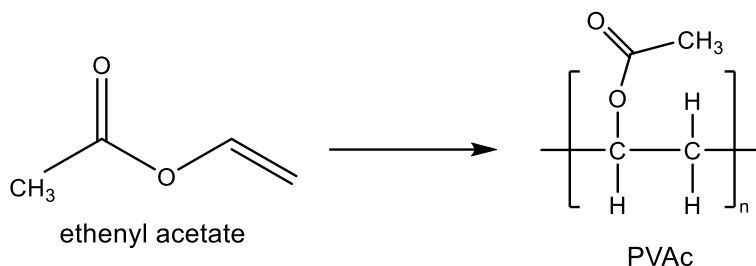

Fig. 4.1
- 4 (a) Polyvinyl acetate, PVAc, is a synthetic polymer commonly used in adhesives for gluing together materials made from wood or paper. The synthesis of PVAc from the monomer, ethenyl acetate, is shown in Fig. 4.1.